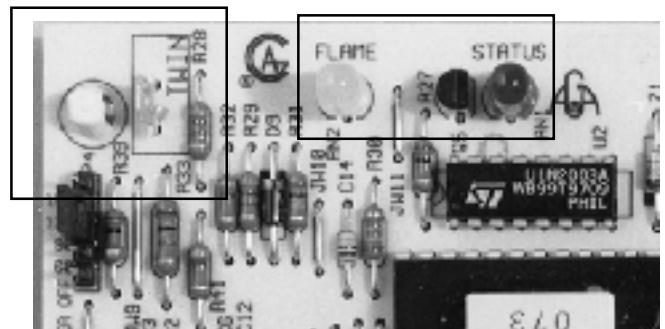

Figure 33.
- E. Twinning Terminal - The function of twinning is to insure simultaneous blower operation on two furnaces. The G6 series is twinning ready. The 3/16" quick connect terminal on the board must be connected to the other furnace control. The thermostat wiring is provided in the diagram. See Figure 33 for location and Figure 18 on page 18 for Twinning Diagram.
- F. Diagnostic Lights - the diagnostic light feature is to aid the service technician in identifying the nature of the problem. See Figure 33.